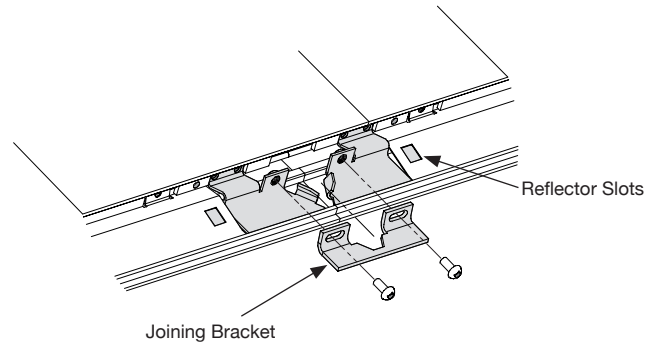

Fig. 2
- From the bottom of the fixture, slide the joining bracket onto the two flanges of the bottom brackets and secure using two #6-32 screws (FIG.2). Repeat this process on the opposite side of the fixture joint.